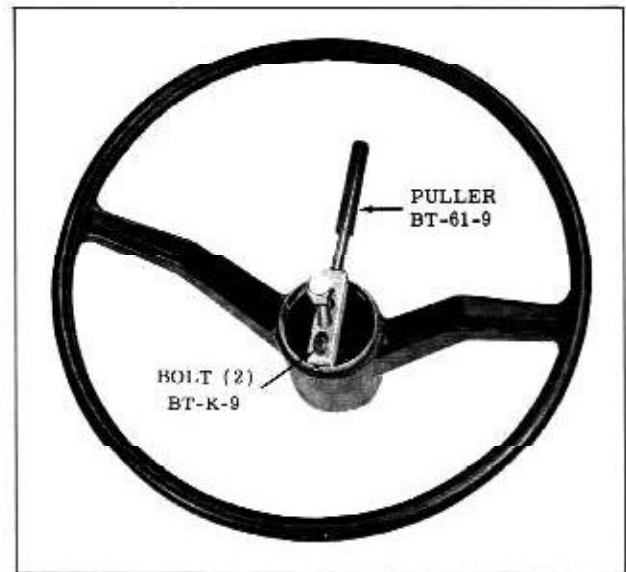

Fig. 4-73 Steering Wheel Removal
4. Remove the steering wheel attaching nut and washer, then using a puller such as BT-61-9, remove the steering wheel from the steering shaft. (Fig. 4-73) Remove puller from steering wheel.